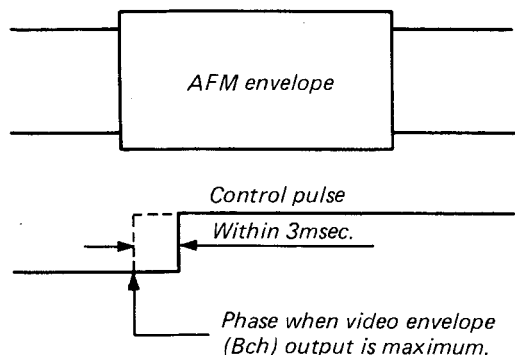

Fig. 1-4-19 Control pulse phase at the maximum AFM envelope output
10) Maximum AFM envelope check (Fig. 1-4-19)